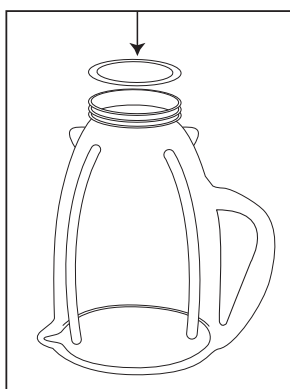

FIGURE 2
- Place sealing ring over jar opening. (Figure 2)